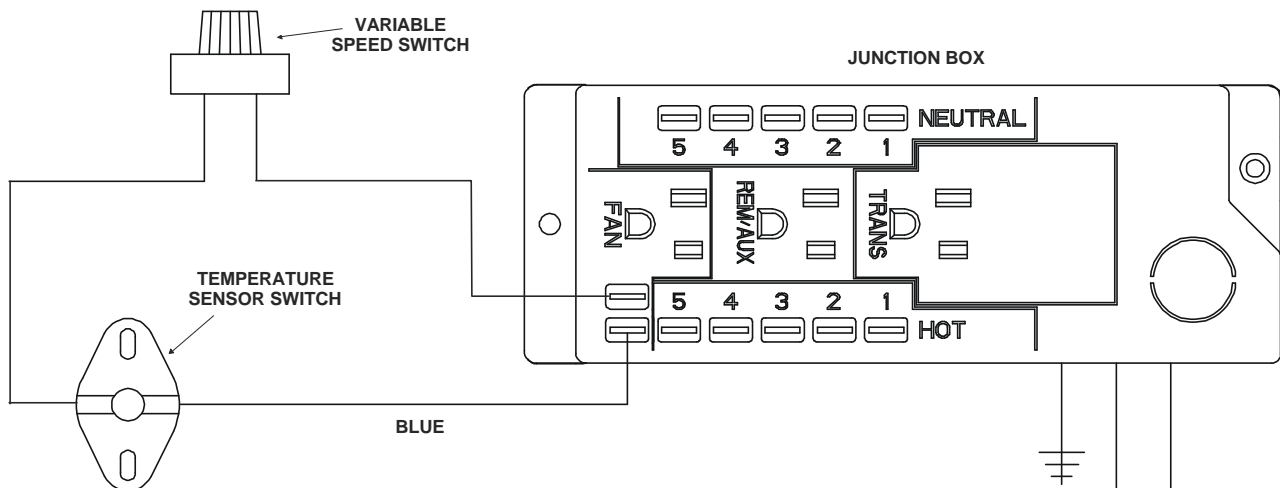

FIGURE 5 Fan Wiring Diagram
3. Connect the variable speed control and the temperature sensor switch to the junction box with the wires provided. See Figure 5 for the wiring diagram that matches the style of junction box on the fireplace.